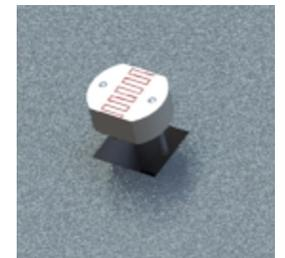

Figure 13 – Detailed view of the connection
Place the Raspberry PI (4) into its gap in the puzzle frame layer, figure 13 and figure 14.